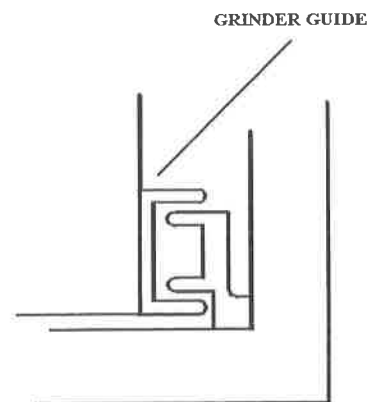

FIGURE 2-2. GRINDER/FRAME GUIDES
- A. Lift the grinder and lower it into the support frame with the vertical guides on the grinder sliding over the vertical guides at the front portion of the frame. Refer to Figure 2-2. When seated, the grinder rests on the bottom of the channel.